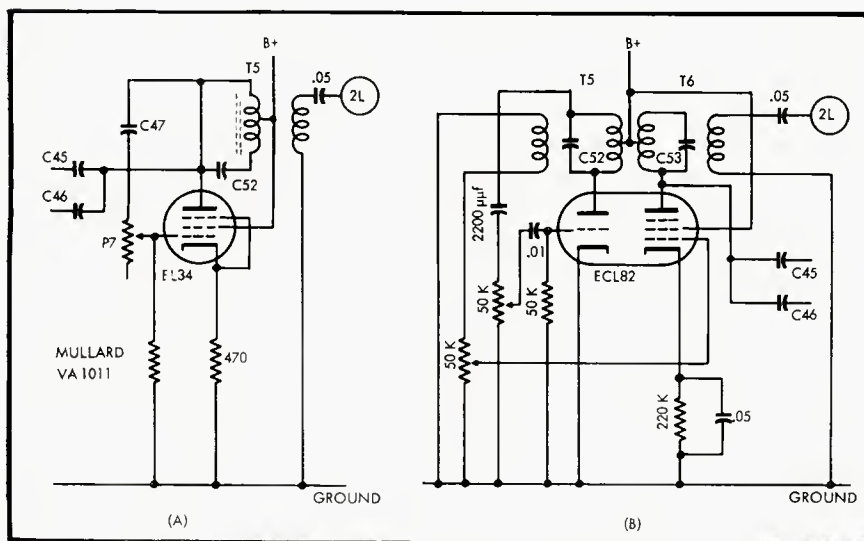

Fig. 10. Two possible circuits suitable for the bias/erase oscillator.
(3) Two out of the many possible oscillator circuits will be found in Fig. 10. In the oscillator of (A), V_{11} is omitted altogether, and V_{11} is a Mullard EL34. P_7 is returned to ground through the Varite thermistor type V1011, adjustments being made as before. The EL34 is a power valve capable of a really remarkable r.f. output, and the thermistor stabilizes the drive to the grid, chiefly in the direction of bypassing it when the current increases beyond a predetermined level. In (B) of Fig. 10, V_{11} is again dispensed with, and a Mullard ECL82 is substituted for V_{11} . This is a combined triode-output pentode, the master oscillator being the triode section. Control is by grid-leak bias, and the circuit is largely self-regulating. As the amplitude of the oscillations increases, the grid capacitor charges and raises the negative bias, until a state of balance is reached in which the oscillations are the maximum